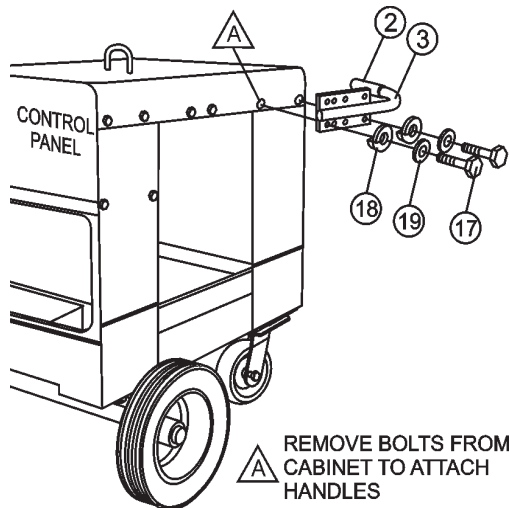

Figure 7. Attach Handles to Cabinet
- Near the top of the cabinet on the rear (control panel side) of the machine, remove the two bolts from the cabinet wall. Attach the handle to the cabinet wall by inserting a bolt, lock washer, and flat washer through the bottom two bolt holes on the handle into the cabinet (Figure 7). Repeat on the other side of the cabinet.